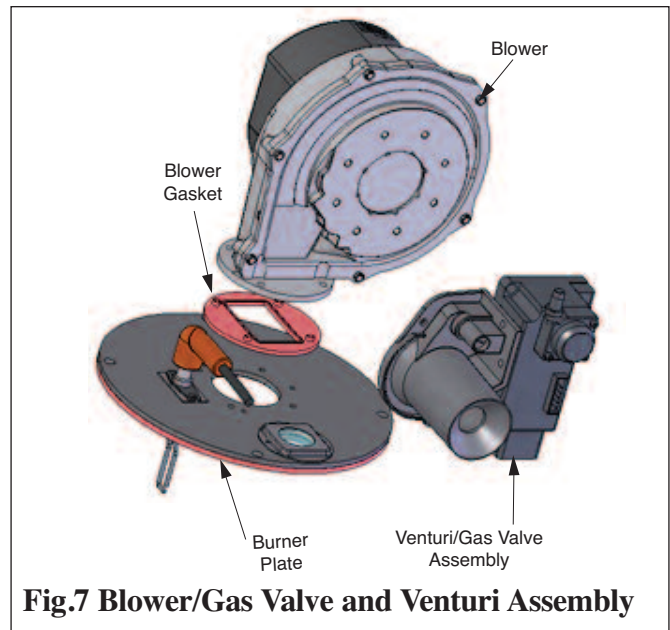

Fig.7 Blower/Gas Valve and Venturi Assembly
1. Remove 4 blower mounting screws from the burner plate using the extended Phillips/Torx head screw driver provided in the kit and remove the blower/gas valve/venturi. Gas valve and venturi assembly can remain connected to the blower housing. Discard old blower gasket. (Fig. 7).